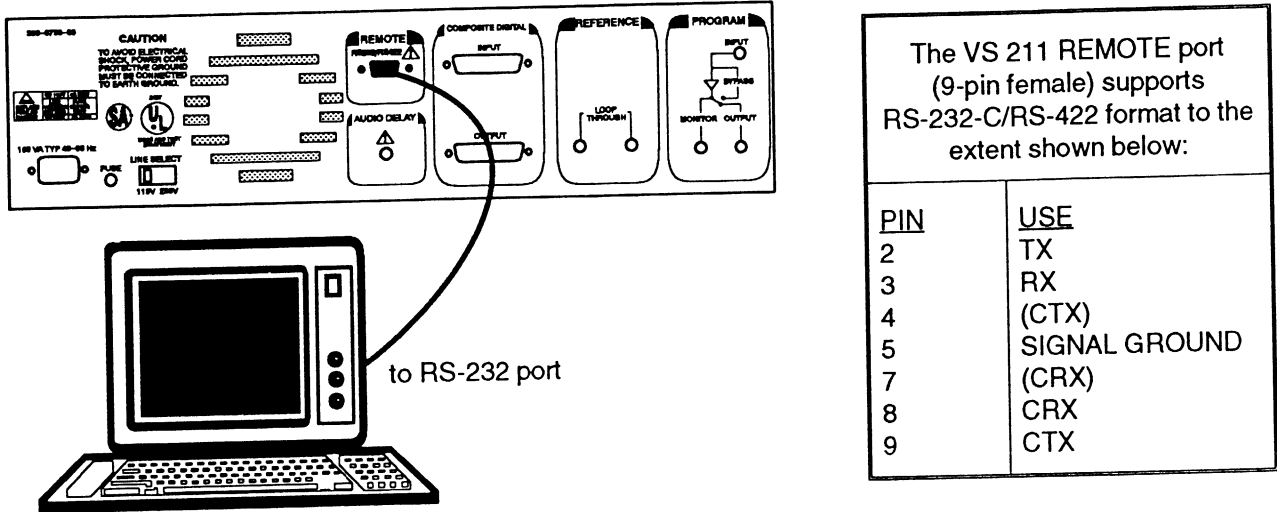

Fig. B-1. Connecting the VS 211 to the terminal.
1. Attach the cable to the terminal's RS-232 port and to the VS 211's REMOTE port, as shown in Fig. B-1.